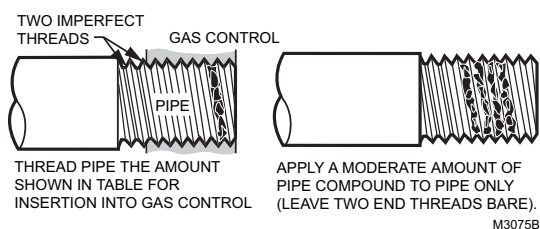

Fig. 5. Use Moderate Amount of Pipe Compound.
- Apply a moderate amount of good quality pipe compound (DO NOT use Teflon tape) to pipe only, leaving two end threads bare. On LP installations, use compound resistant to LP gas (See Fig. 5).